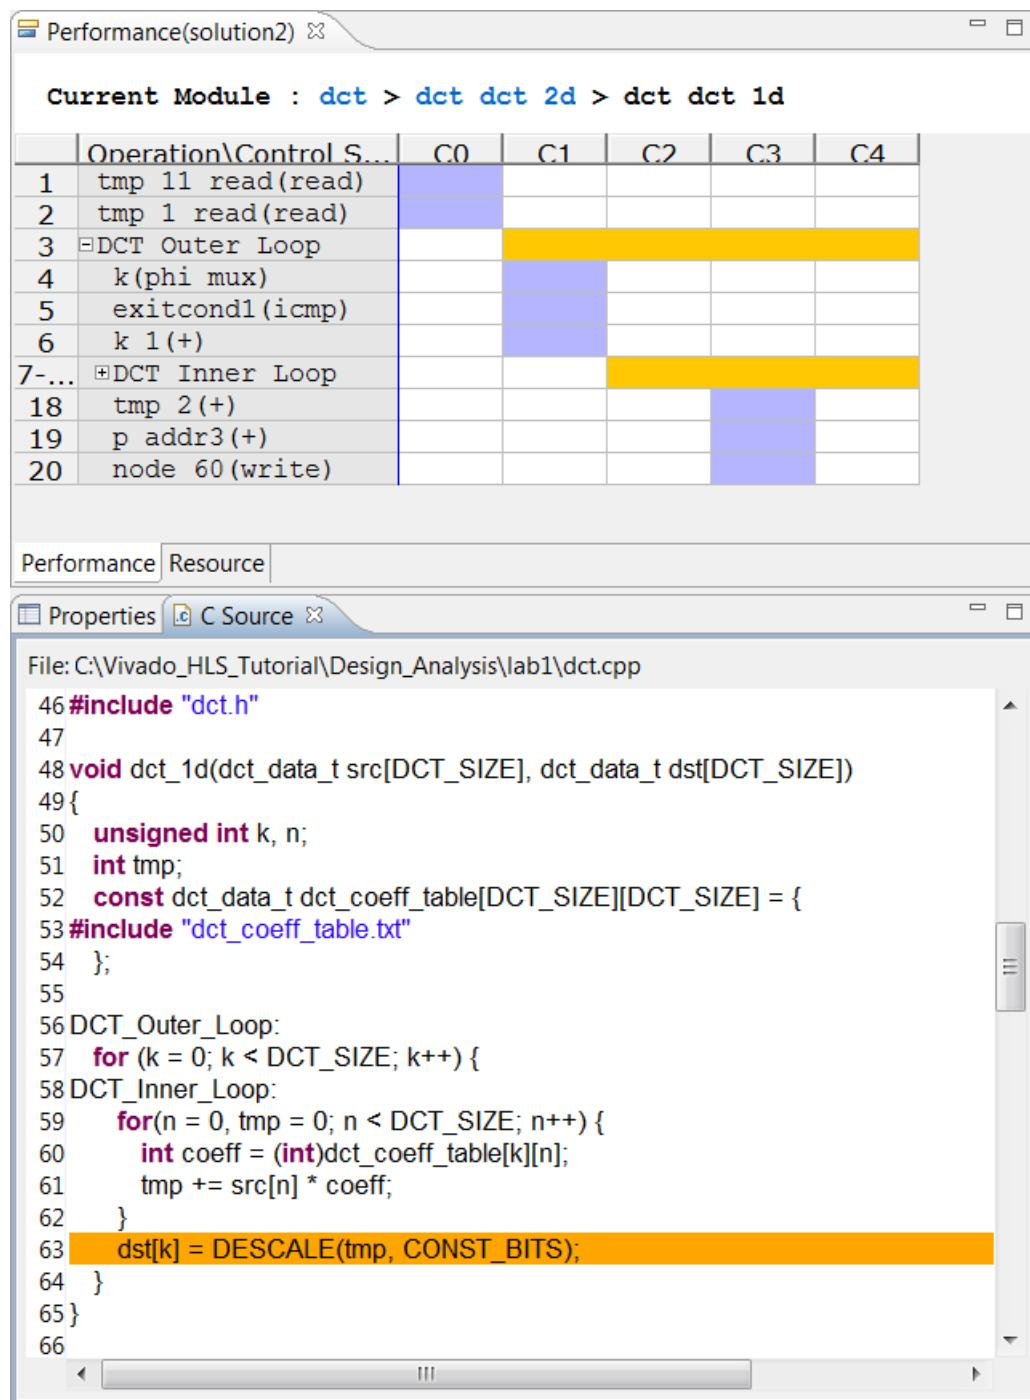

Figure 6-19: DCT Solution2 dct_1d Performance View
- In the **Performance** view, click loops `DCT_Outer_Loop` and `DCT_Inner_Loop` to view the loop hierarchy (Figure 6-19).
Figure 6-19 shows that this loop was not flattened because additional operations outside of DCT_Inner_Loop, at the level of DCT_Outer_Loop, prevented loop flattening. One of the operations that prevented loop flattening is highlighted in Figure 6-19, below.